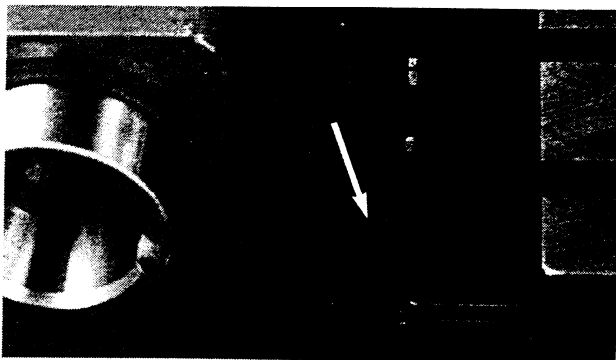

Figure 44
1. Manually adjust the traverse slide over until the Twin Cutter Arms are centered over the rotor. Lock the traverse slide using the lock knob on the back side of the slide (**Figure 44**).